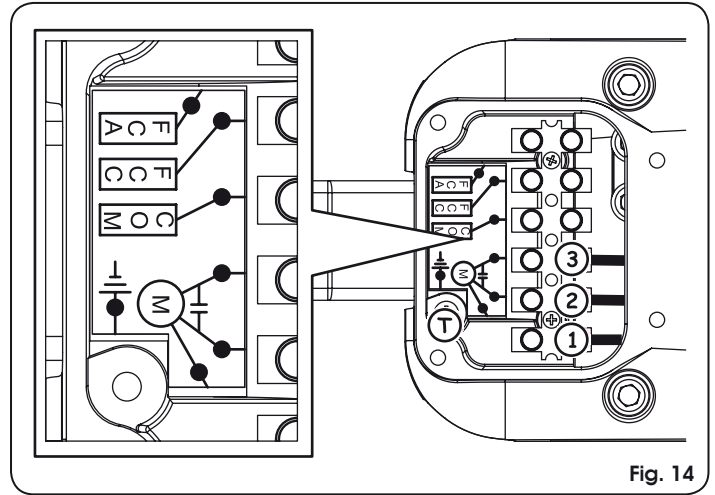

Fig. 14
3. Connect the motor and the earthing with reference to Fig. 14 and the following tables.